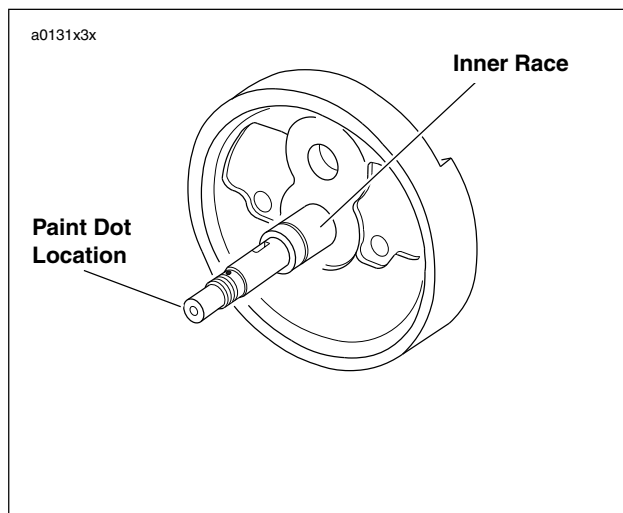

Figure 3-116. Factory Inner Race Paint Dot Location
14. See Figure 3-116. Installed inner races are identified at the factory as shown.